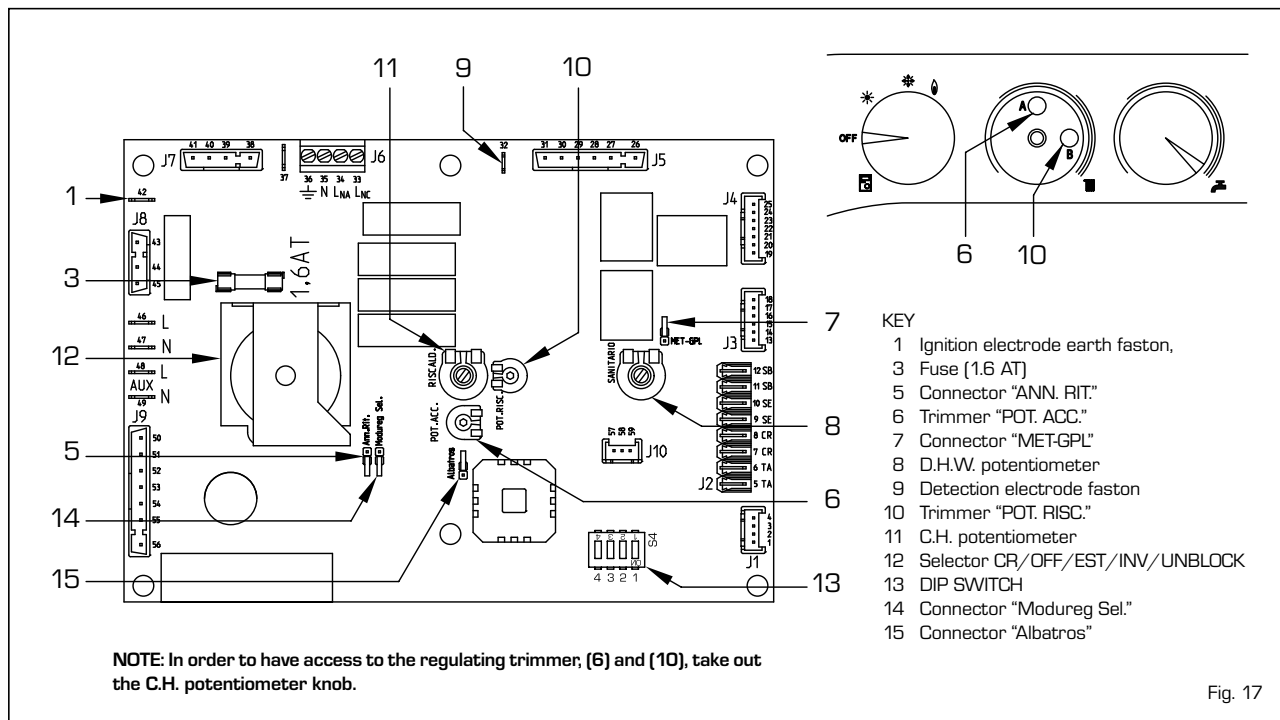

Fig. 17
- **Trimmer "POT. RISC."** (10 fig. 17)
- **Trimmer "POT. ACC."** (6 fig. 17)
- **Connector "MET-GPL"** (7 fig. 17)
- **Connector "ANN. RIT."** (5 fig. 17)
- **DIP SWITCH** (13 fig. 17)
- **Connector "Modureg Sel."** (14 fig. 17)
**NOTE:** In case of replacement of the SIT gas valve to HONEYWELL or vice-versa, set properly the Modureg connector of electronic panel (14 fig. 17 - point 4.1.2). With the jumper inserted the boiler is set for the SIT gas valve; with the jumper removed the boiler is set for the HONEYWELL gas valve.